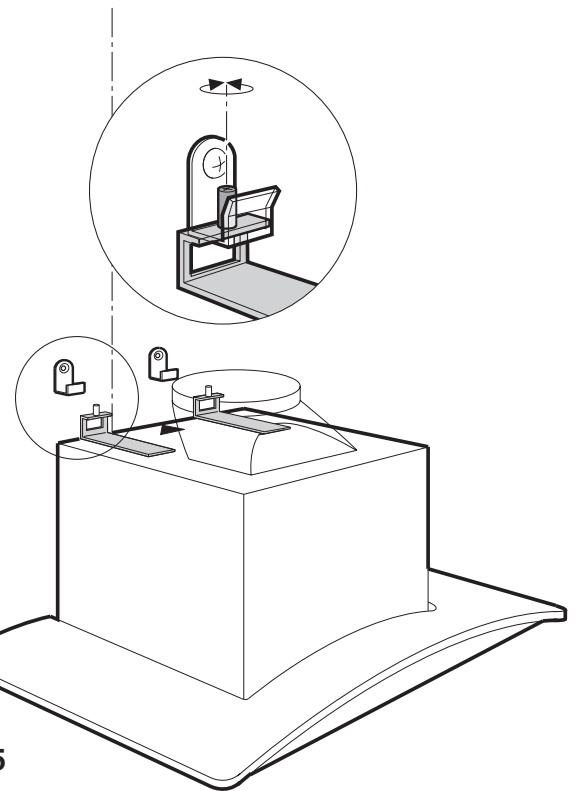

Fig. 5
- Hang the hood, adjust the position using the screws on the hooks of the hood. (Fig. 5)